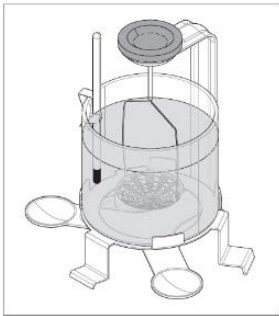

Figure 4.2-1
- Suspend a suitable holder from the bracket to ensure that it does not touch the wall of the beaker or the thermometer*. If underload is displayed, use the offsetting weight as described in Chapter 1 (check figure 4.2-1 as an example).